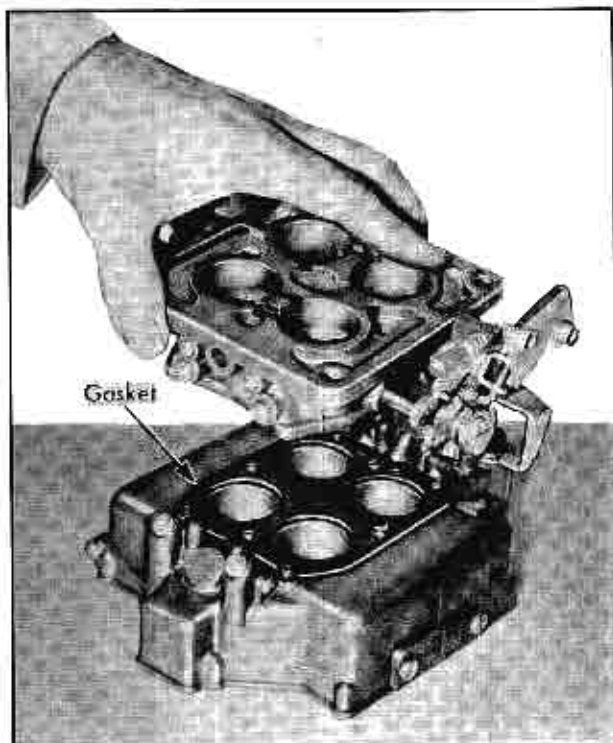

Fig. 12-55 Installing Throttle Body
2. Place throttle body assembly on bowl with primary throttle lever and fast idle cam on same side as bowl sight plugs, as shown in Fig. 12-55.